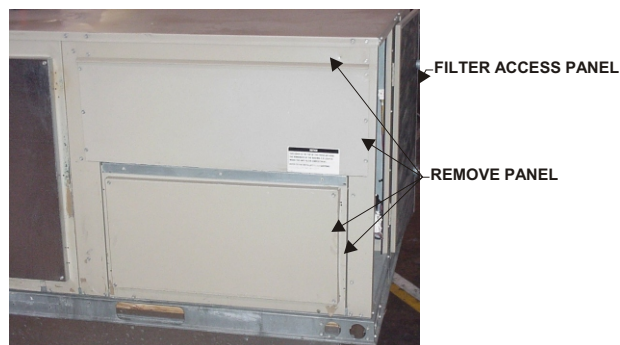

Figure 1
- 3- Remove the rooftop unit horizontal return air access panels. Also remove any hoods and/or power exhaust equipment. Discard hoods, power exhaust equipment, and horizontal return air panels. **See Figure 1.**